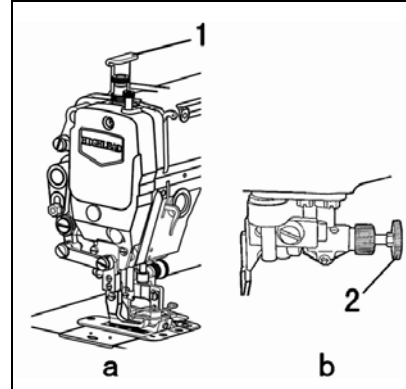

Fig. 32
23. CLOTH CUTTING KNIFE (Fig.32,33)